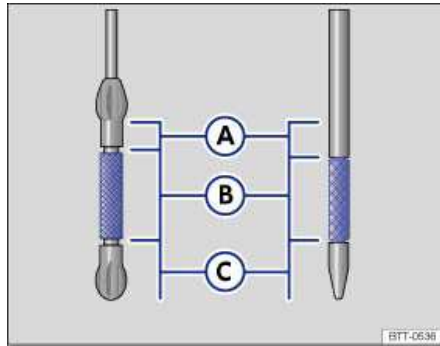
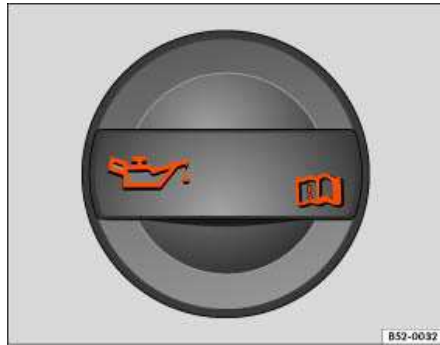

Fig. 143 Oil dipstick with engine oil level marks.
Fig. 144 In the engine compartment: Engine oil filler cap.
4. Find the oil filler opening and the dipstick. You can identify these by the **e** symbol on the engine oil filler cap ⇒ fig. 144 and the colored handle on the dipstick. If you are not sure where the cap and the dipstick are located, see your authorized Volkswagen dealer or authorized Volkswagen Service Facility for assistance.
7. Remove the dipstick again and read the oil level on the dipstick ⇒ fig. 143 as described below:
- (A): **Do not** add any oil ⇒ ⚠. Continue with step 15.
- (B): Oil may be added (about 1 pint / 0.5 liter). Continue with step 8 or step 15.
- (C): **You must** add oil (about 1 quart / 1.0 liter). Continue with step 8.
9. Remove the cap on the engine oil filler opening ⇒ fig. 144.
13. After adding oil, the level must at least be in the center of the ⇒ fig. 143 (B) area, but never above (A) ⇒ ⚠.